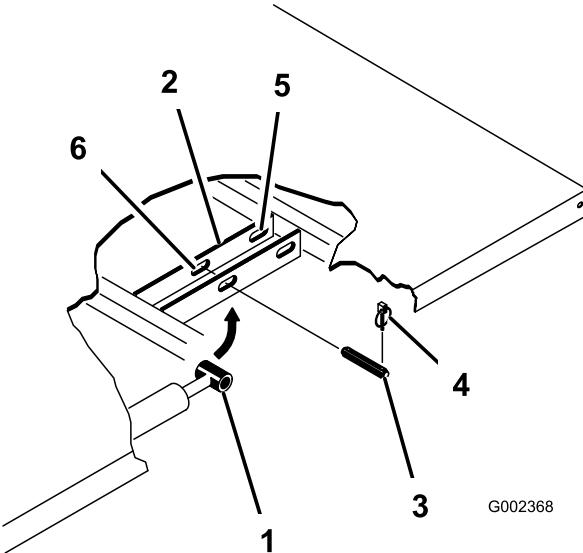

Figure 20
3. Remove the lynch pins from the outer ends of the cylinder rod clevis pins (Figure 20).
4. Remove the clevis pins securing the cylinder rod ends to the bed-mounting plates by pushing the pins toward the inside (Figure 20).
5. Remove the lynch pins and clevis pins securing the pivot brackets to the frame channels (Figure 20).